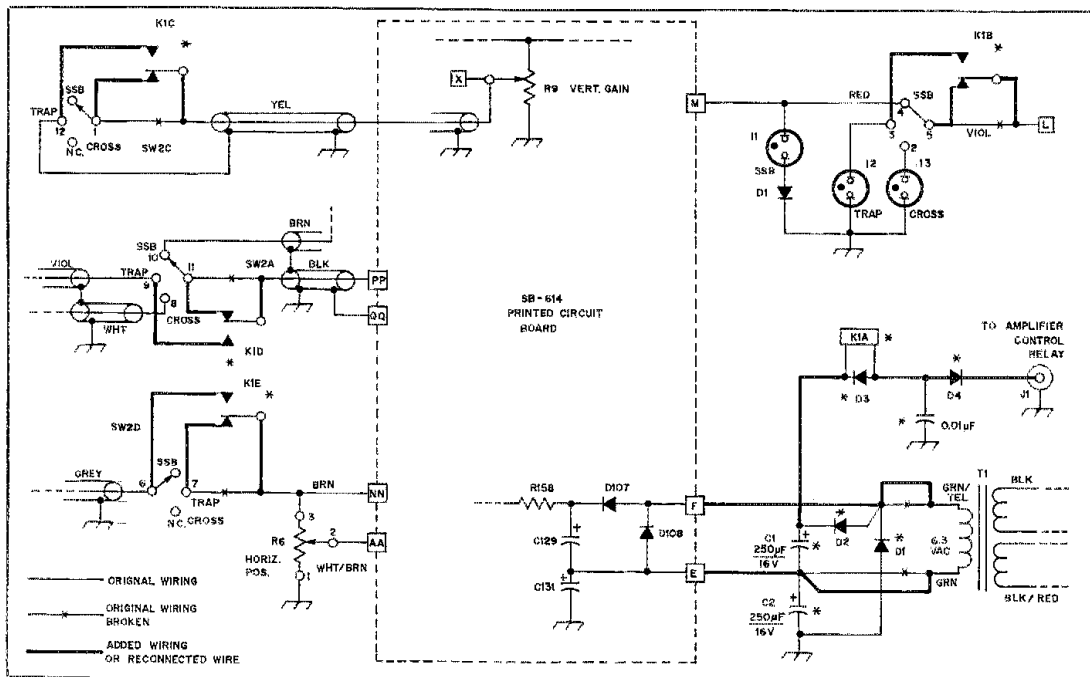

Fig. 1 — SB-614 monitor scope wiring modifications. Added components are indicated by an asterisk. Other component designations are those of the manufacturer.
Close examination of the '614 diagram suggested that a 4pdt low-voltage relay, correctly wired to the mode switch (SW2) and controlled by the exciter/transceiver amplifier control relay contacts, would do the trick. Fig. 1 shows how this is accomplished. The normally closed (NC) contacts of the relay are placed in series with the movable contact arms of the switch (terminals 1, 5, 7 and 11) so the scope operates as unmodified when the relay is de-energized. For automatic operation, the mode switch is set to the SSB position. When the relay is energized, the normally open (NO) contacts switch to the TRAP mode.